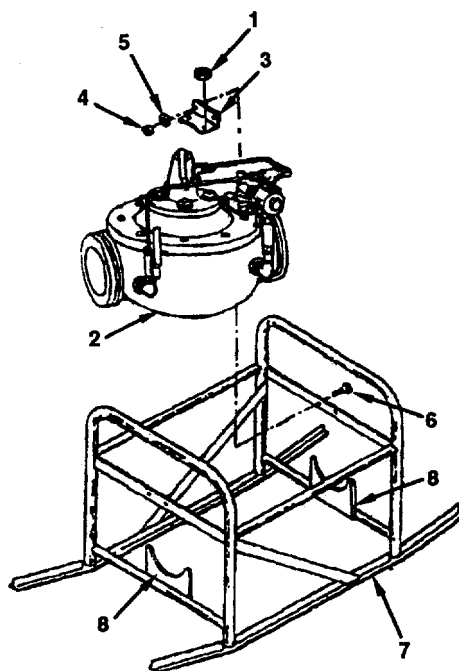
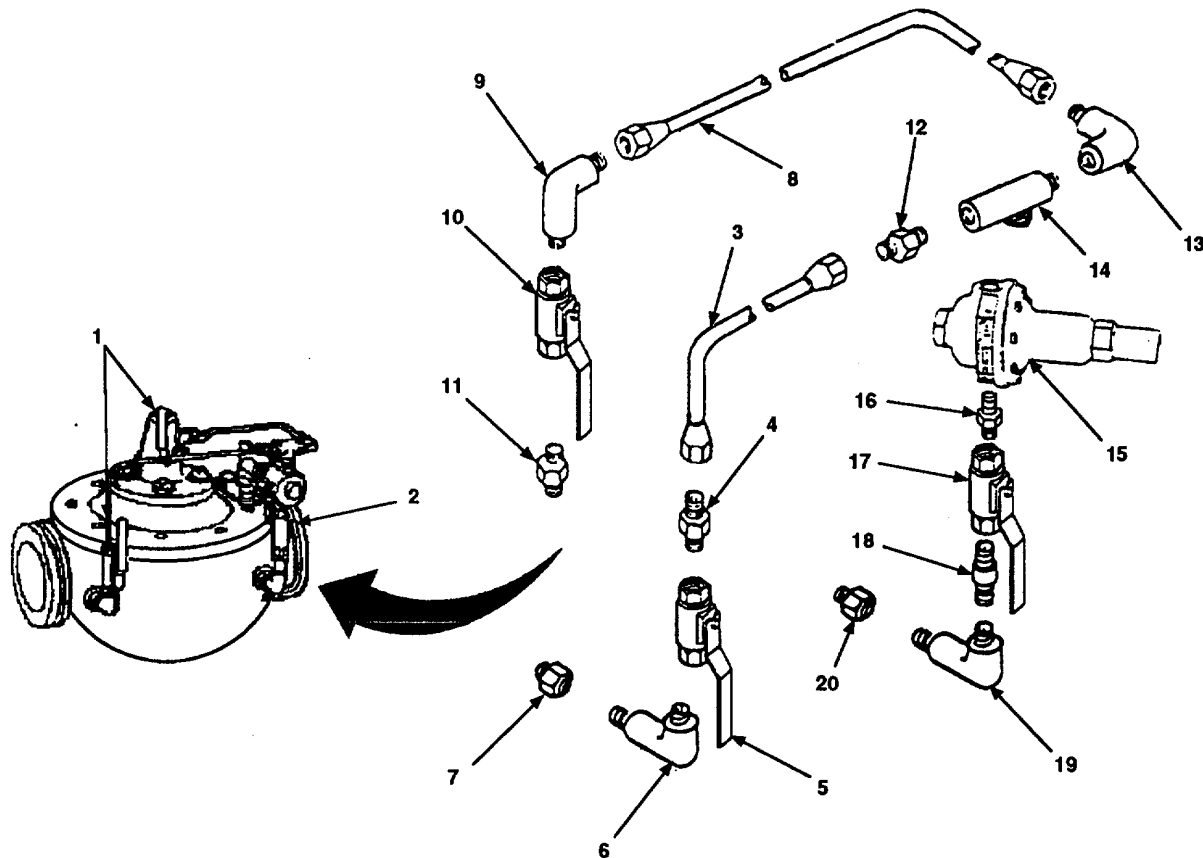

Figure 4-10. Pressure-Reducing Valve Assembly Maintenance.
Figure 4-11. Pressure-Reducing Valve Assembly Tubing and Pressure-Reducing Control Maintenance.
- a. Remove four nuts (Figure 4-10, 1) securing main valve assembly (2) to two mounting brackets (3).
- b. Remove two nuts (4), lock washers (5), and mounting bolts (6) securing each mounting bracket (3) to skid assembly (7). Discard lock washers (5).
- c. Remove mounting brackets (3).
- a. Open cover isolation cock valves (Figure 4-11, 1) to release pressure inside main valve assembly (2).
- b. Remove tubing (3).
- c. Remove reducer (4) from isolation cock valve (5).
- d. Remove isolation cock valve (5).
- e. Remove elbow (6) from reducer (7).
- f. Remove reducer (7) from body of main valve assembly (2).
- g. Remove tubing (8).
- h. Remove elbow (9) from isolation cock valve (10).
- i. Remove isolation cock valve (10) from reducer (11).
- j. Remove reducer (11) from cover of main valve assembly (2).
- k. Remove reducer (12) and elbow (13) from pipe tee (14).
- l. Remove pipe tee (14) from main valve assembly (15).
- m. Remove pressure-reducing control assembly (15).
- n. Remove pipe nipple (16) from isolation cock valve (17).
- o. Remove isolation cock valve (17).
- p. Remove pipe nipple (18) from elbow (19).
- q. Remove elbow (19) from reducer (20).
- r. Remove reducer (20) from body of main valve assembly (2).
- a. Inspect main valve assembly (Figure 4-10, 2) for evidence of leaks, cracks, holes, missing components, or damage.
- b. Inspect mounting brackets (3) and skid assembly (7) for cracks, bends, holes, or damage.
- c. Return damaged or defective main valve assembly (2) and skid assembly (7) to direct support maintenance.
- d. Replace all damaged mounting hardware and mounting brackets (3).
- e. Inspect all tubing (Figure 4-11, 3 and 8), reducers (4, 7, 11, 12, and 20), elbows (6, 9, 13, and 19), pipe tee (14), and pipe nipples (16 and 18) for corrosion, cracks, and damage.
- g. Inspect pressure-reducing control (15) for cracks, holes, missing components and damage. Return damaged or defective pressure-reducing control (15) to direct support maintenance.
- a. Install reducer (Figure 4-11, 20) on main valve assembly (2).
- b. Install elbow (19) on reducer (20).
- c. Install pipe nipple (18) in elbow (19).